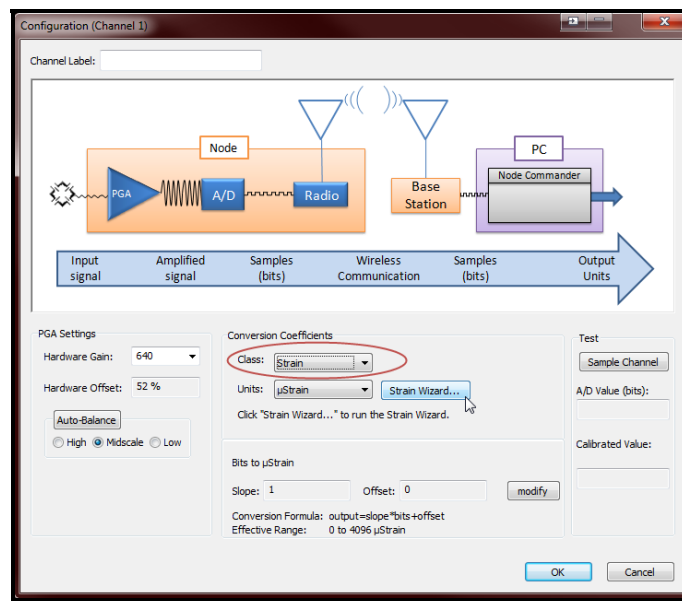

Figure 4 – Channel 1 Configuration screen in Node Commander[®] software indicating location of conversion coefficients.
- Select Strain under Class and μ Strain (microstrain) under Units in the Conversion Coefficients frame as shown in *Figure 4*.